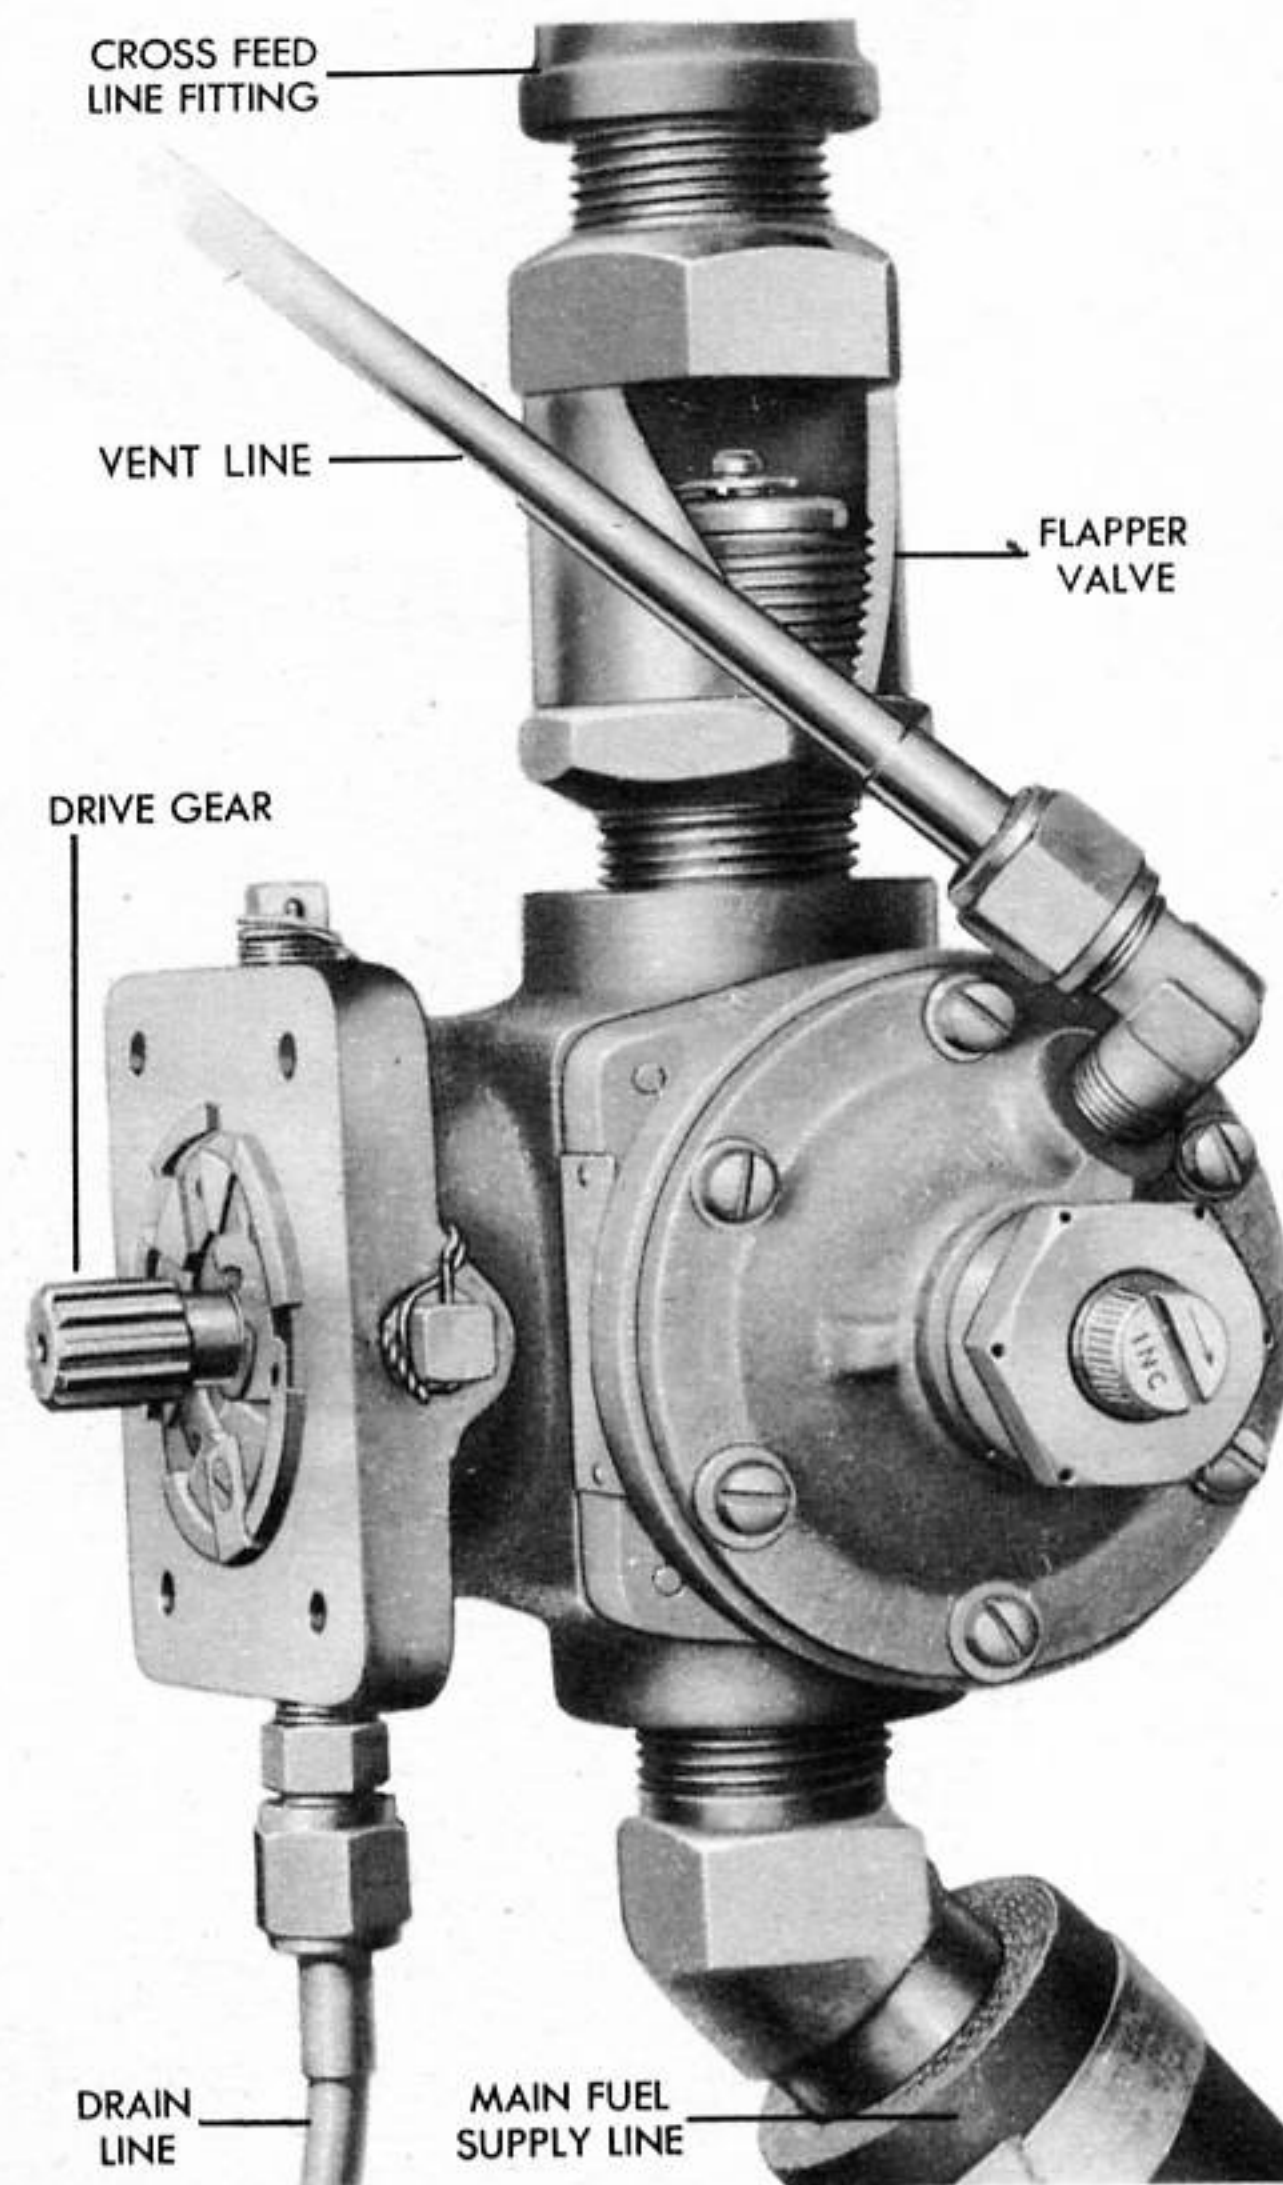

Figure 141 - ENGINE DRIVEN FUEL PUMP
(4) ENGINE DRIVEN FUEL PUMPS. (See figure 141.) - Each engine drives a fuel pump of the